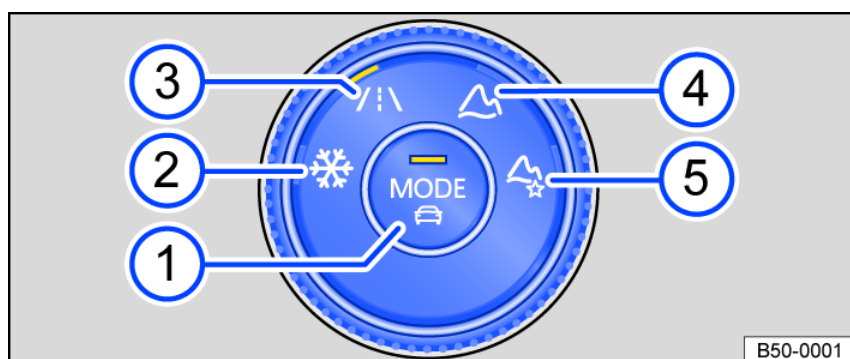

Fig. 119 In the center armrest: 4MOTION Active Control rotary switch.
1. Turn the dial until the LEDs next to the preferred driving mode comes on fig. 119.